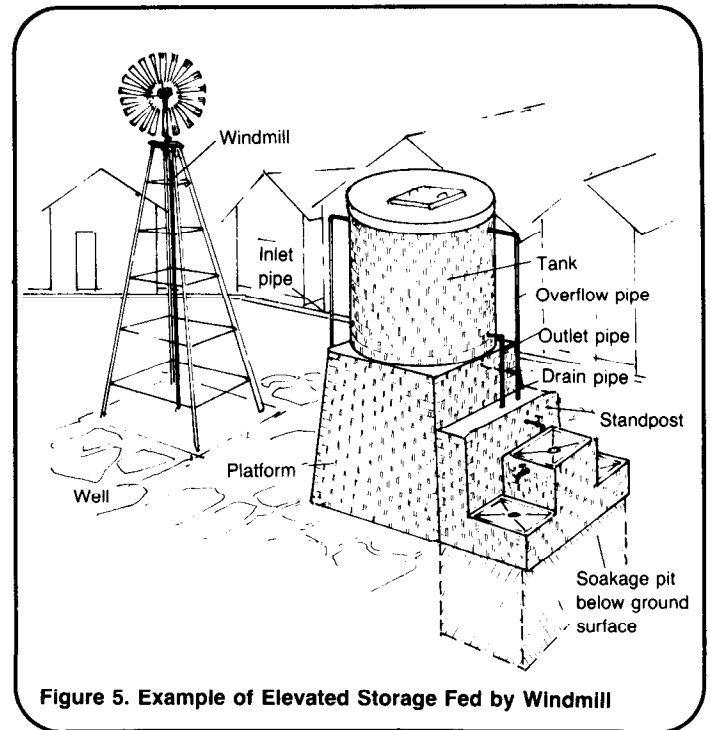

Figure 5. Example of Elevated Storage Fed by Windmill
4. When the tank is finished, the pipes should be connected to the water source. In some cases, the inlet will be connected to the gravity-fed pipeline from a spring or other source. In other cases, the connection will be to a pump installed in a community well. Figure 5 shows a completed system with a windmill pump and brick masonry storage tank. Several standpipes can be serviced from a single storage tank if there is sufficient capacity.